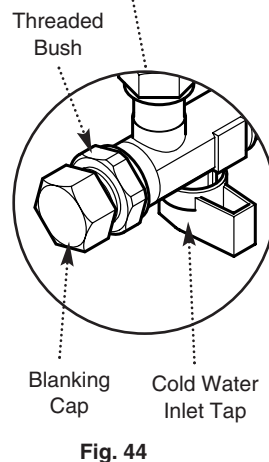

Fig. 44
20. Turn the tap off. Undo the blanking cap and remove the threaded bush (Fig. 44).